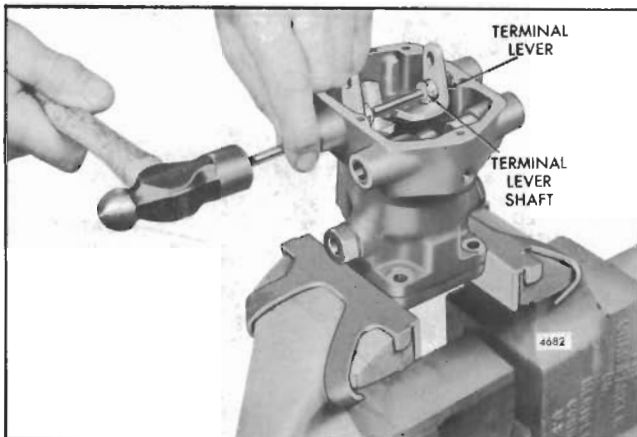

Fig. 11 - Removing Cup Plug from Governor Housing
15. If necessary, the speed adjusting lever (16), floating lever (55), spring fork (53), speeder spring (52) and pilot valve plunger and spring seat assembly, may be disassembled as follows:
- Straighten the bent end of the wire pin (60) securing the speed adjusting lever and spring fork to the speed adjusting floating lever.
17. Place a 1/4" brass rod approximately 5" long through the terminal lever shaft opening in the governor housing and terminal lever and against the inner end of the second terminal lever shaft. Then drive the governor housing cup plug out of the housing boss as shown in Fig. 11.